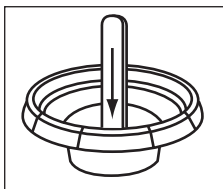

Figure 1
- 3) Using a stir stick, push down the center of the cup (Figure 1).